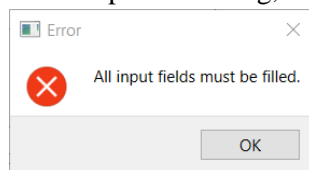

Figure 5: Error Message
- iv. If one input is missing, the program gives the error message seen in Figure 5.